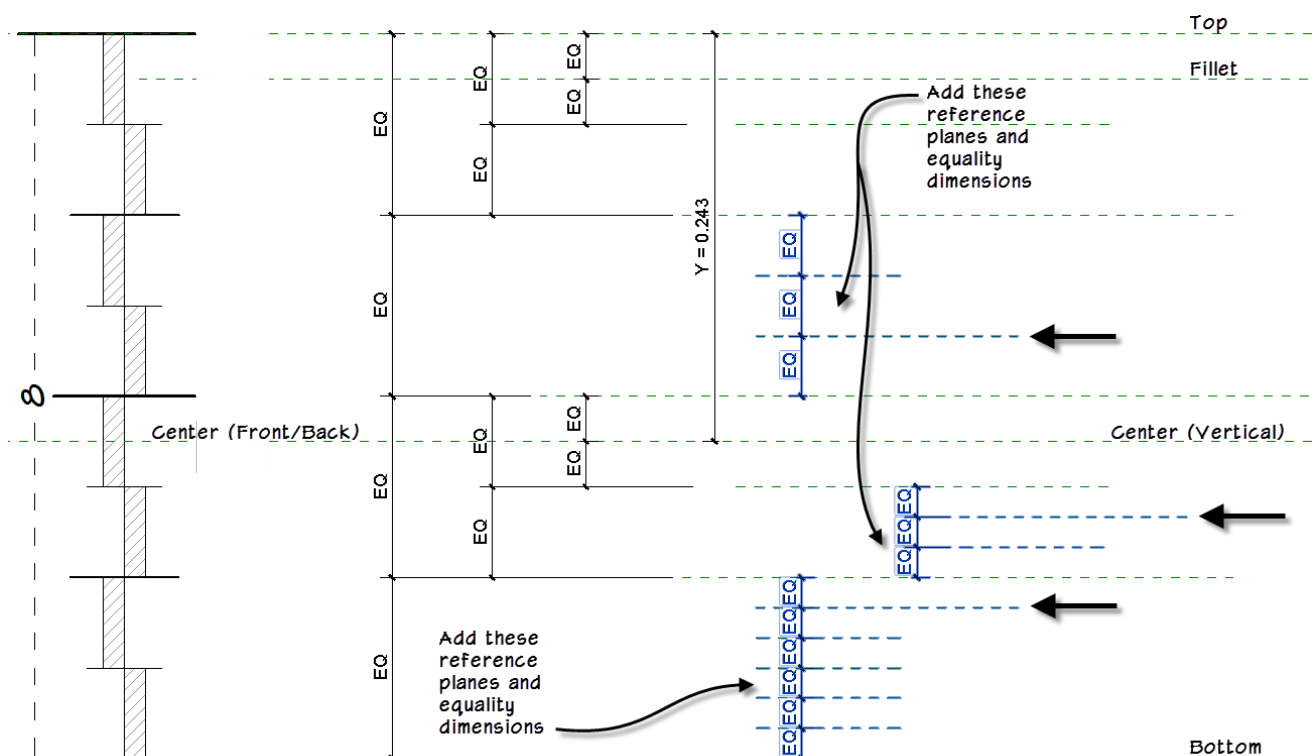

FIGURE 10—ANALYZE THE REFERENCE PLANES AND EQUALITY DIMENSIONS, ADD ADDITIONAL ONES
The collection of reference planes off to the left side at first looks somewhat chaotic. However, there is a strategy to how I have laid them out. Zoom the screen so you can see all the reference plans at the left. In Figure 10 I have added a graphic scale to the left to help illustrate the relationships of the reference planes. Note first that everything is slightly off center. The overall distance between Top and Bottom reference planes is the height of the volute. The Y parameter controls the distance from the Center (Vertical) reference plane (which is the origin of this family) and the Top reference plane. The Center (Vertical) reference plane is also the location of the volute eye. Everything else is driven by a series of nested equality dimensions.
As you saw when creating arcs 4 and 5, even if the reference plane is off screen, you can still snap to it and lock to it. So, let's create a few more groups of equally spaced reference planes. We only need three for the purposes of snapping geometry. These are the ones indicated with the bold arrows in Figure 10. However, to use the equality dimensions, you must add additional ones as well. I like to vary the length make the important ones stand out. So, when creating the reference planes indicated in the figure, make the ones with the arrows a little longer. (Optionally you can create a new subcategory for reference planes that is a different color, line pattern or weight and assign it to the primary ones).
1. Using Figure 10 as a guide, create three groups of reference planes and equality dimensions as indicated.